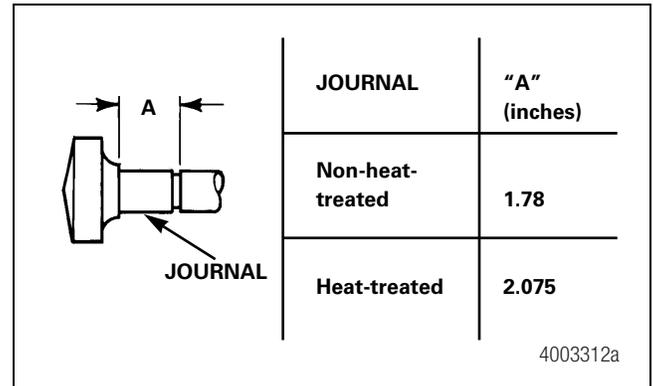

**Figure 11.10**
- An arrangement used in the past consists of a bushing with a 90-degree grease fitting installed onto a camshaft bracket with a round hole. When assembled, the grease fitting is oriented toward the slack adjuster. Figure 11.10.